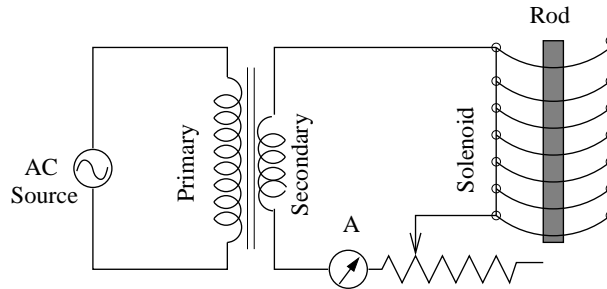

Figure 5: Demagnetizing Circuit
3. Demagnetization of specimen rod: Connect the circuit according to Figure 5. Set the AC